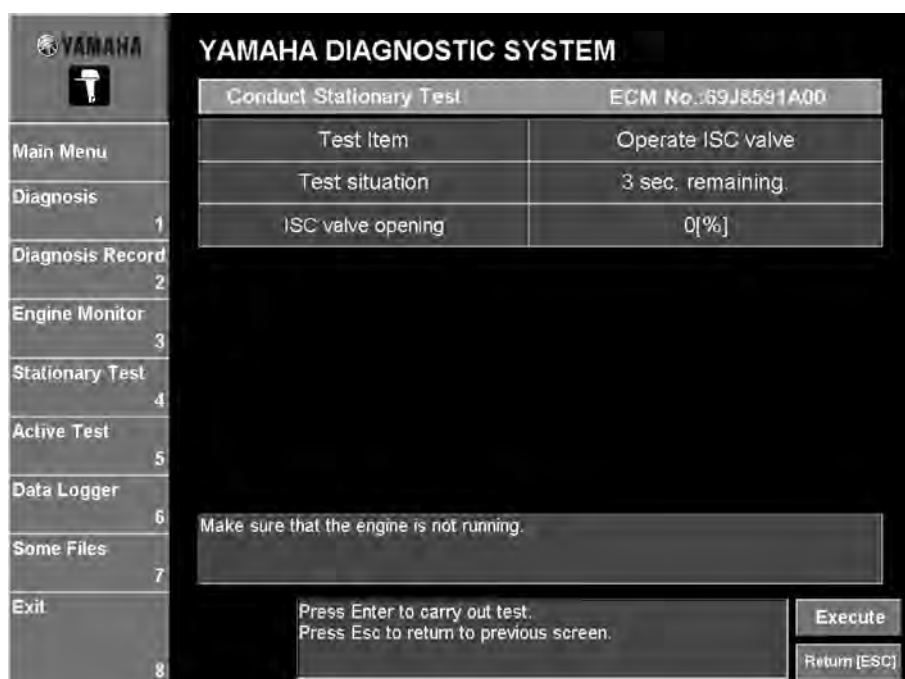

Fig. 89
2. Click the **Execute** button or press the Enter key on your keyboard. (Fig. 89)